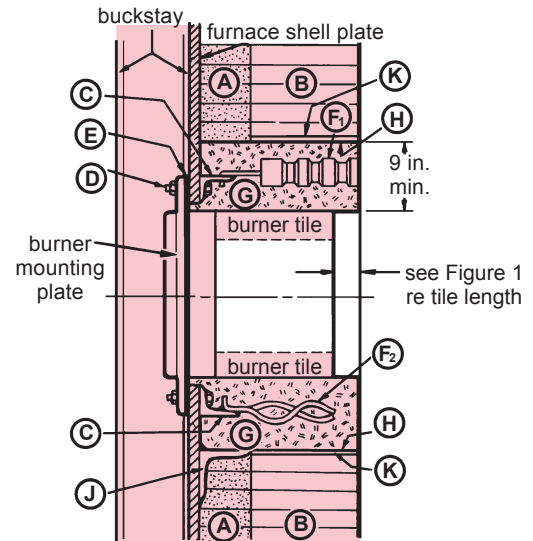

Figure 2. Cross section through a vertical furnace wall showing a recommended method for installing a burner tile. Letters refer to legend below.
Legend for Figure 2
7. Leave an opening all around the burner tile for a rammed or cast refractory matrix as shown in Figure 2. Purpose of this matrix is to make sure burner mounting and tile, matrix, and furnace shell will all move as a unit in the event of unequal expansion of refractory wall and shell. This construction is designed to eliminate failures shown in Figures 3 and 4.
Figure 4. Tile fails in tension as a result of bowing or buckling of the shell or brickwork. Prevent this by using more rigid shell, buckstay, and bracing construction. Install high temperature matrix as shown in Figure 2 to avoid passages that would permit "fluing" of gases through brickwork to the shell.